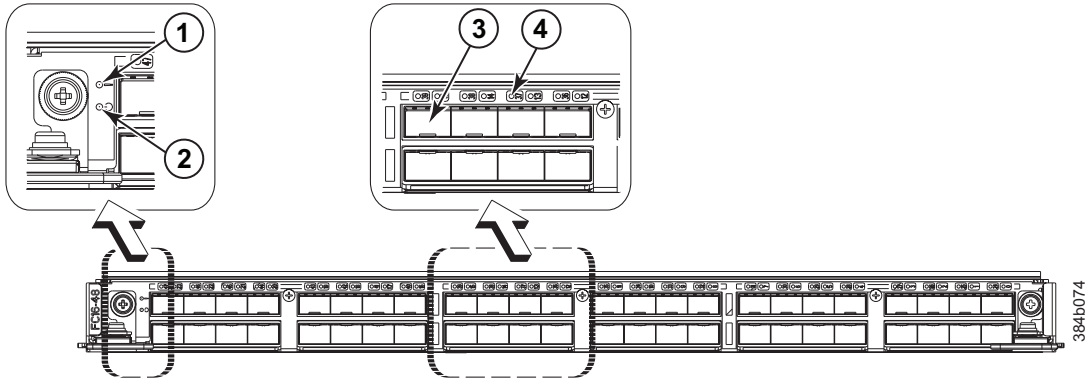

Figure 20. FC16-48 port blade
- Figure 20 on page 56 illustrates the FC16-48 port blade